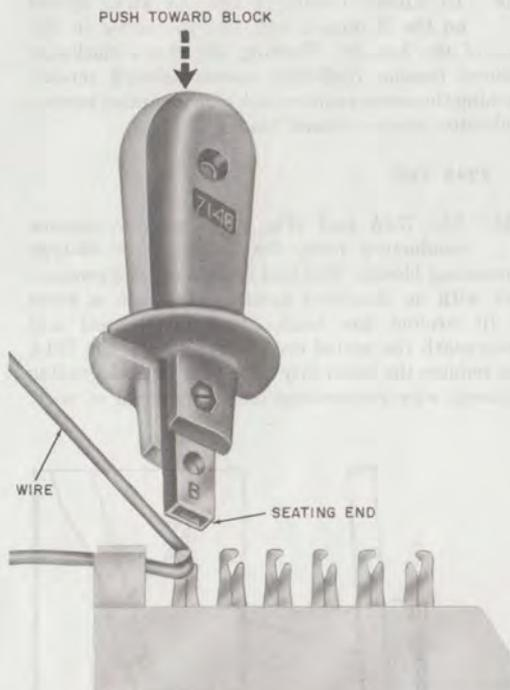

Fig. 5—Preparation for Looping Termination
- 3.05** To make a **looping termination** on a 66-type connecting block (Fig. 5 and 6), perform the following steps:
Note: The 714B tool is shown in Figures 5, 6, 7, and 8; the D impact tool is used in the same way.
- (1) Select wire to be terminated.
- (2) Work wire into fanning strip.
- (3) Place wire in hook of terminal, using fingers or long-nose pliers.
- (4) Place seating end (cutting end of blade turned into handle) of 714B or D impact tool over terminal (Fig. 5).